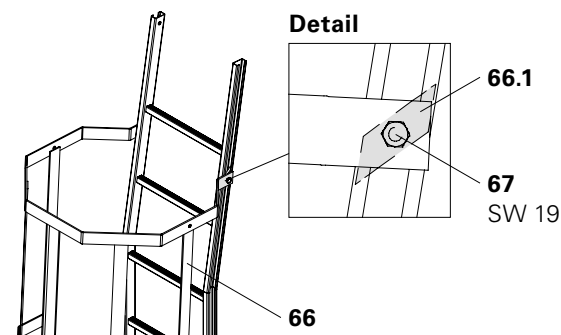

Fig. B1.42
1. Bring and hold Ladder Safety Cage (66) in position using a rope.
2. Slightly loosen Bolts ISO 4017 M12 x 25-8.8 (67), SW 19 (4x) on the clamping plate (66.1), position clamping plate on the ladder longitudinal members, turn and tighten bolts. (Fig. B1.42)